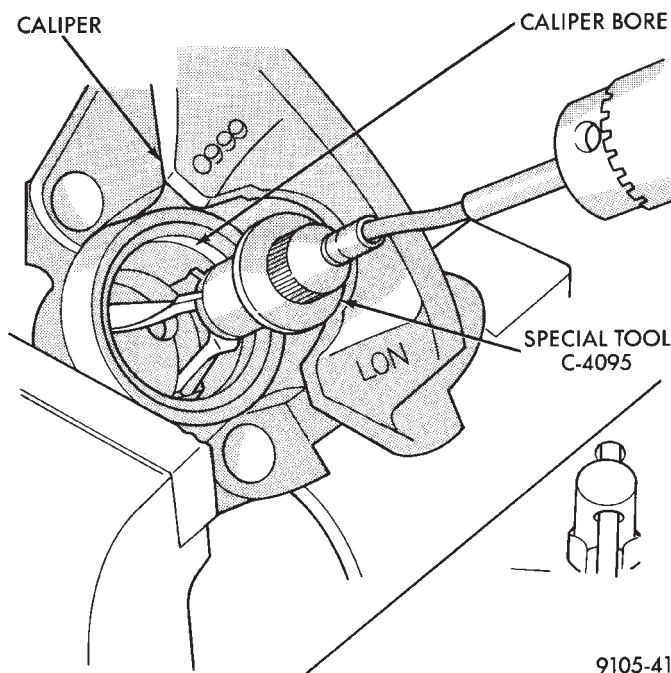

Fig. 5 Honing Piston Bore
(3) Bores that have deep scratches or scoring should be honed. Use Caliper Hone, Special Tool C-4095, or equivalent providing the diameter of the bore is not increased more than 0.0254 mm (0.001 inch) (Fig. 5).